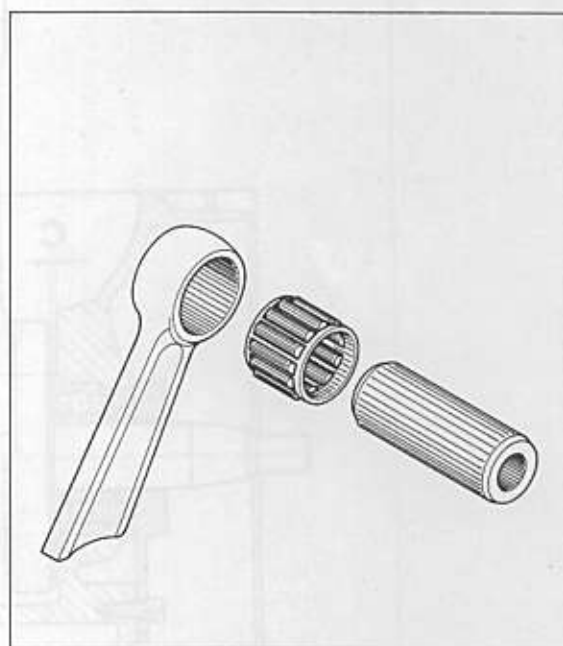

Fig. 33
- on a 80 cc engine with a needle bearing the clearance check is carried out by inserting the gudgeon (Fig. 33).
- Sui motori con 80 cm³ sullo spinotto viene montato il cuscinetto come mostrato in Fig. 33.